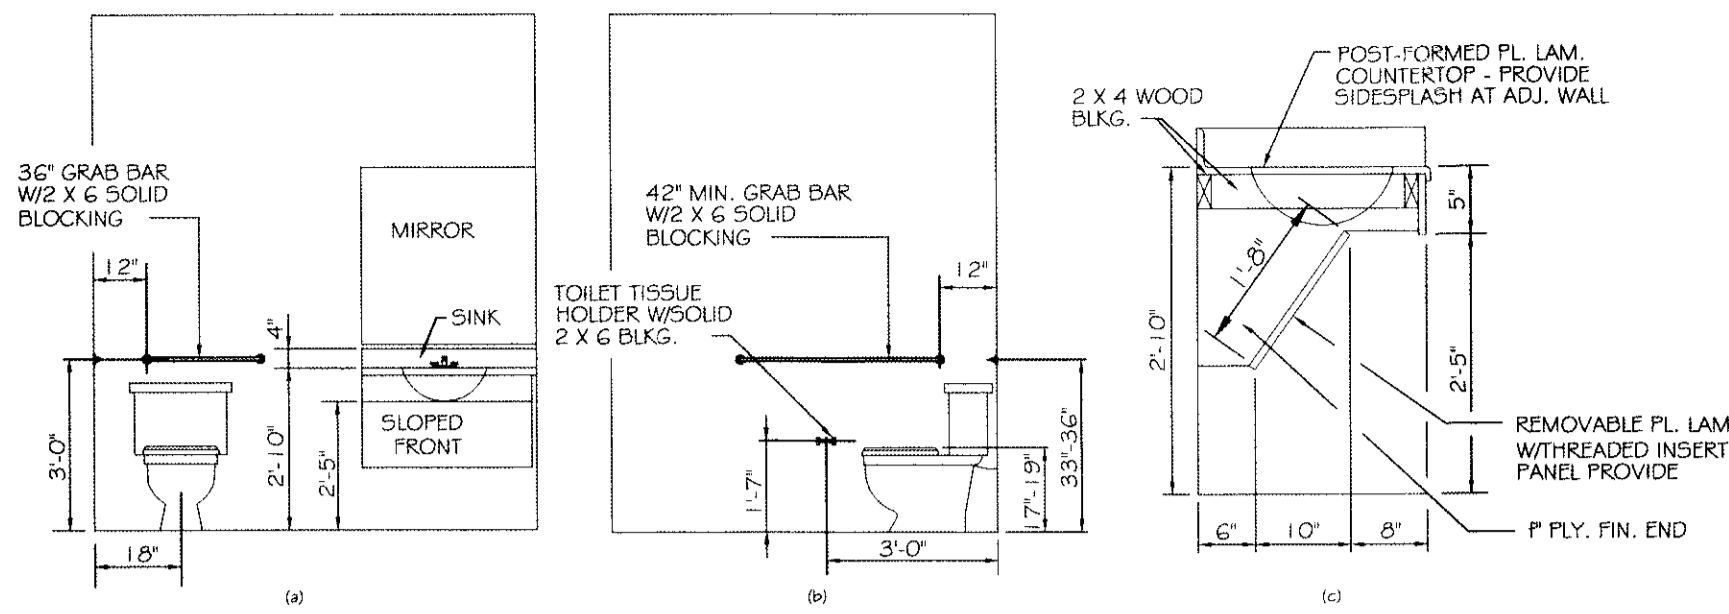

FIG. 31 LAVATORY & WATER CLOSET CLEARANCES
- 4.16.3 HEIGHT. THE HEIGHT OF WATER CLOSETS SHALL BE 17" TO 19" (430mm TO 485mm), MEASURED TO THE TOP OF THE TOILET SEAT. SEATS SHALL NOT BE PIVOTING TO A UPRIGHT POSITION (SEE FIG. 31).
- 4.16.4 GRAB BARS. GRAB BARS FOR WATER CLOSETS NOT LOCATED IN STALL SHALL COMPLY WITH 4.26 AND FIG. 31. A GRAB BAR BEHIND THE WATER CLOSET SHALL BE 36" (915mm) MINIMUM.
- 4.16.6 DISPENSERS. TOILET PAPER DISPENSERS SHALL BE INSTALLED WITHIN REACH, AS SHOWN IN FIG. 31. DISPENSERS THAT CONTROL, DELIVER, OR THAT DO NOT FEED CONTINUOUS PAPER FLOW, SHALL NOT BE USED.
- 4.17.6 GRAB BARS. GRAB BARS MAY BE MOUNTED WITH ANY DESIRED METHOD AS LONG AS THEY HAVE A GRIPPING SURFACE AT THE LOCATION SHOWN IN FIG. 31 AND DO NOT OBSTRUCT THE REQUIRED CLEAR FLOOR AREA. GRAB BARS SHALL COMPLY WITH 4.26.
- 4.19.2 HEIGHT & CLEARANCES. LAVATORIES SHALL BE MOUNTED WITH THE RIM OR COUNTER SURFACE NO HIGHER THAN 34" (865mm) ABOVE THE FINISH FLOOR. PROVIDE A CLEARANCE OF AT LEAST 29" (735mm) ABOVE THE BOTTOM OF THE APRON (SEE FIG. 31).
- 4.19.6 MIRRORS. MIRRORS SHALL BE MOUNTED WITH THE BOTTOM EDGE OF THE REFLECTING SURFACE NO HIGHER THAN 40" (1015mm) ABOVE THE FINISH FLOOR (SEE FIG. 31).
- 4.24.2 HEIGHT. SINKS SHALL BE MOUNTED WITH THE COUNTER OR RIM NO HIGHER THAN 34" (865mm) FROM THE FINISHED FLOOR (SEE FIG. 31).